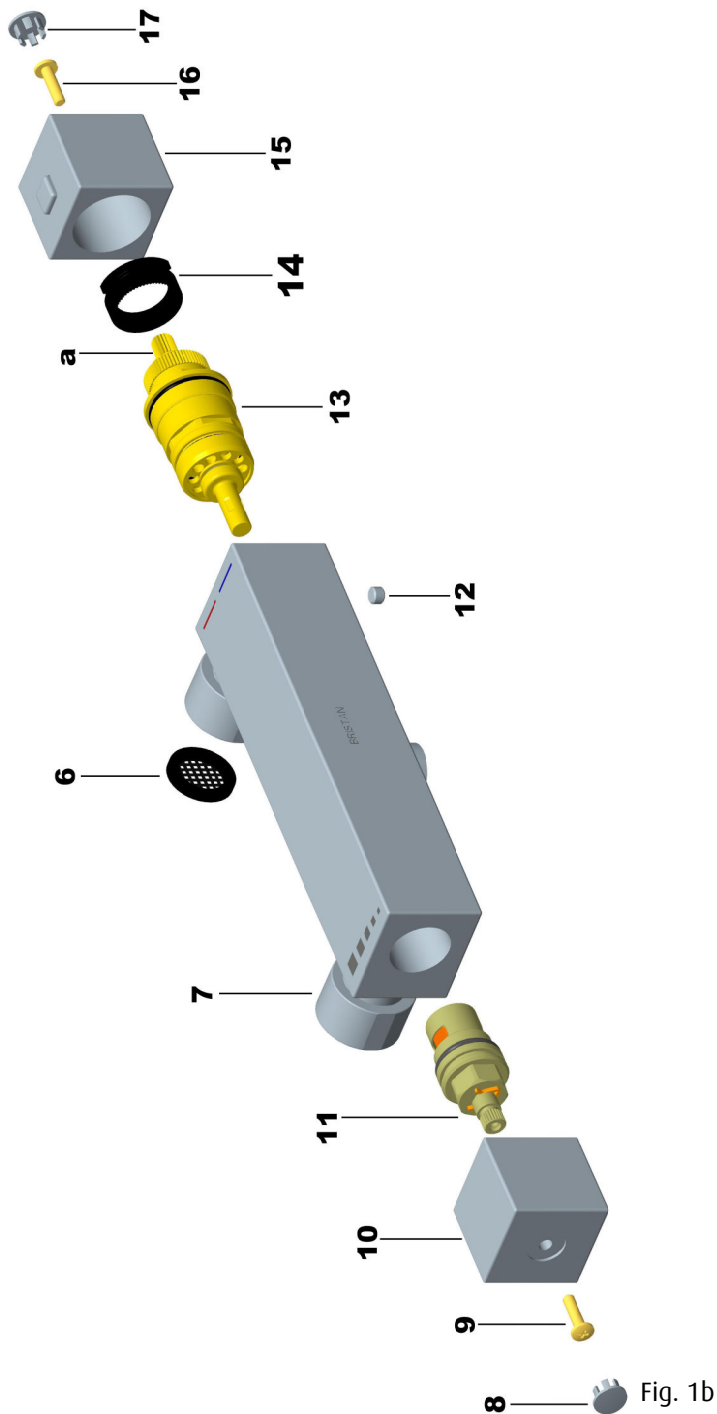

Fig. 1b
8.3 Cartridge Removal (See Fig. 1b)
4.2.2 Bar Shower Body (See Fig. 1b)